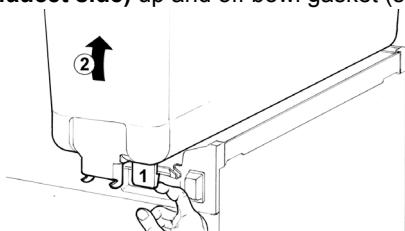

figure 3
- 2 Remove the empty bowl by lifting pulling lever (1) and its front side (**faucet side**) up and off bowl gasket (see figure 3).